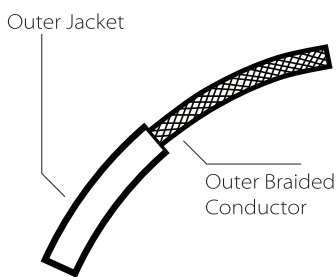

Fig. 1
3. Determine the height at which the fixture (F) is to be hung. Insert the steel cable (G) through the lock (H) and adjust to the desired length. To shorten the cable, push the cable up and it will be locked automatically. To lengthen the cable, lift up on the cable and push up on the lock. While keeping the lock depressed, lower the cable to the desired length. Release the lock to set.
- a. Connect the LED driver's (J) live wire to the live outlet box wire.
- b. Connect the LED driver's (J) neutral wire to the neutral outlet box wire.
- c. Connect the canopy's ground wire (green or uncoated) to the ground outlet box wire. If no ground is present in outlet box, connect canopy's ground wire to the mounting plate (K) using the green screw (included).
5. Install the mounting plate (K) to the outlet box (A) with outlet box screws (L).
6. Install canopy (M) to the mounting plate (K) with countersunk screw (N) using included screwdriver.
7. Use the screwdriver to loosen the slotted set screw (P). Adjust height of cord. Tighten the set screw to set. Reserve extra cord in the canopy (M).
8. Slide cord rings (Q) as close as possible to canopy (M) and fixture (F) (Figure 1).
9. Install trim (R) by threading it to fixture (H).
(Figure 1)
1. Make a 1" slice along the length of the cord's outer jacket (Fig. 1).
2. Carefully strip the outer jacket of the cord and keep the outer braided conductors intact (Fig. 1).